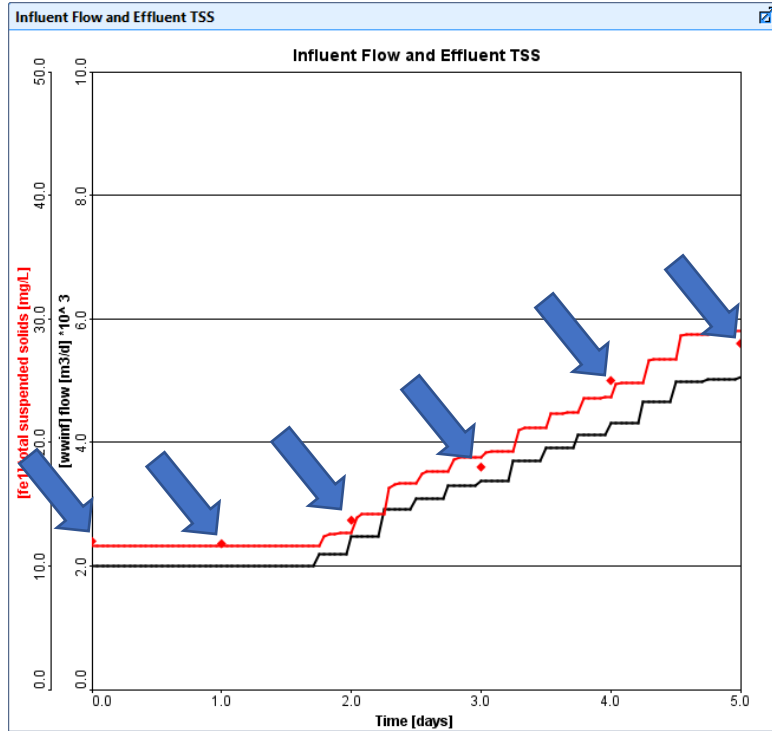

Figure 6-19 – Graph showing Measured Data Points
22. **Run a 5-day simulation with Steady-State clicked ON.** The data points from the measured data is shown as diamond-shaped points on the graph, as shown in **Figure 6-19**.